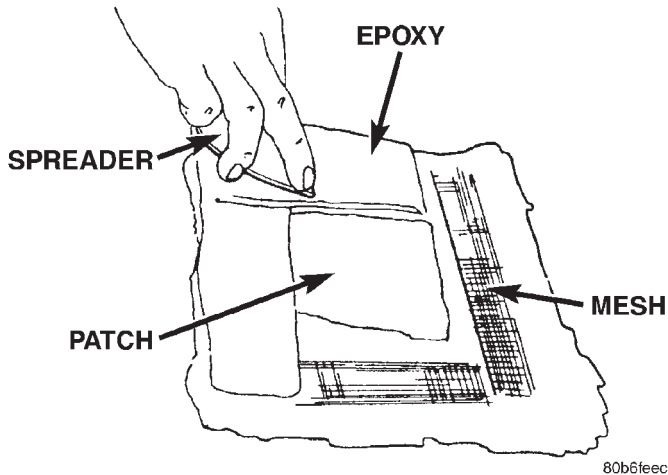

Fig. 16 Cover Mesh With Epoxy
(20) Apply epoxy over the mesh around patch, and smooth epoxy with a wide spreader to reduce finish grinding. Use two to three layers of mesh and epoxy to create a stronger repair (Fig. 16).